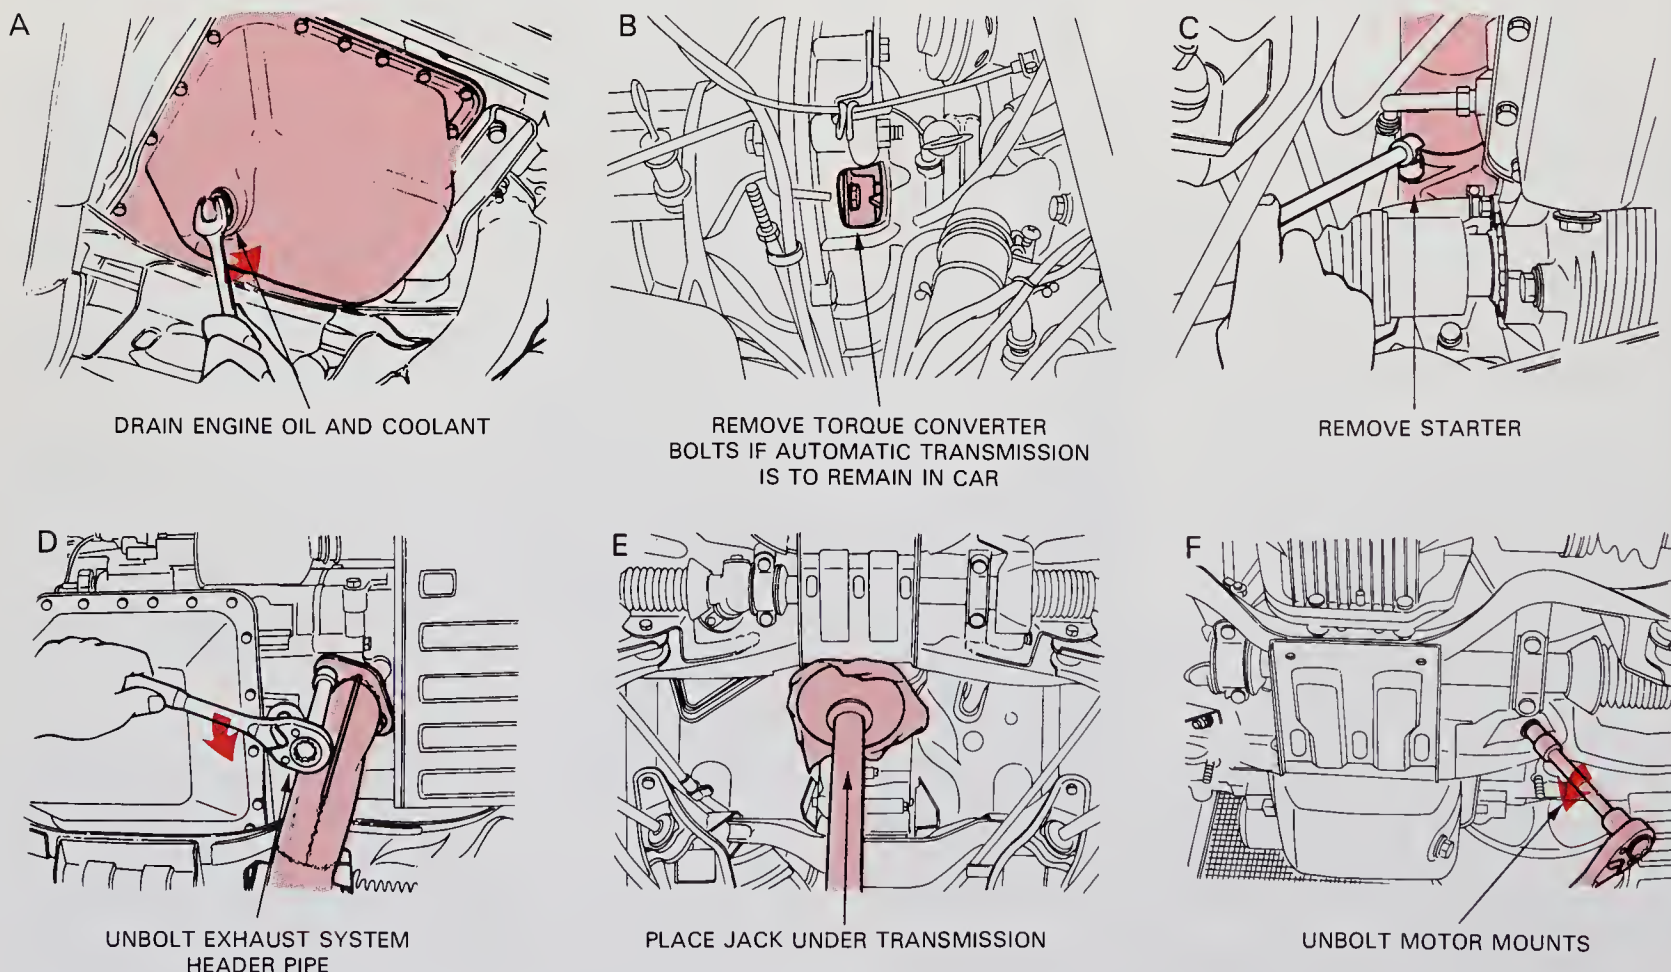

Fig. 46-2. When under car, these are some of the parts that must be disconnected before engine removal. Check a service manual for details. (Subaru)
9. Do NOT disconnect any power steering or air conditioning lines or hoses unless absolutely necessary. Usually, the power steering pump or air conditioning compressor can be unbolted and placed on one side of the engine compartment, Fig. 46-2.
12. Remove any other part that prevents engine removal: air cleaner, automatic transmission flywheel fasteners, and bell housing bolts. Refer to Fig. 46-2.